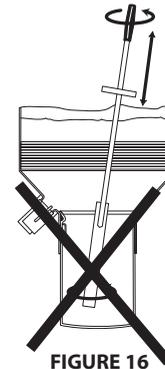

FIGURE 16
11. **! DANGER:** Should a STIR signal come on (in some older models), do not stir cooking oil below cone in fryer (see Figure 16) after first round of cooking each day. Cracklings stirred below cone may cause hot cooking oil to rapidly rise up and out of fryer. You may be burned or badly hurt.